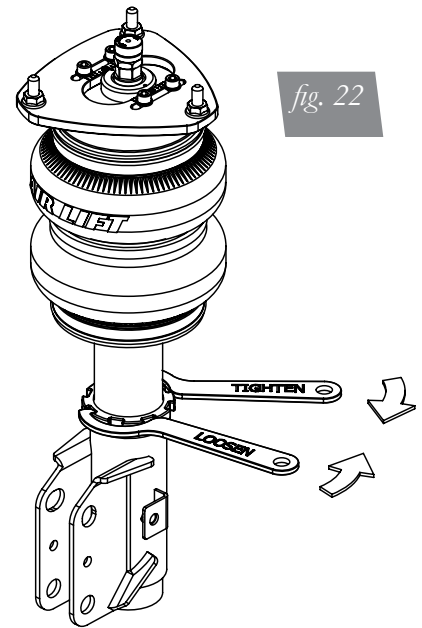

fig. 22
3. Using the supplied spanner wrench, loosen the lower locking collar (fig. 22).